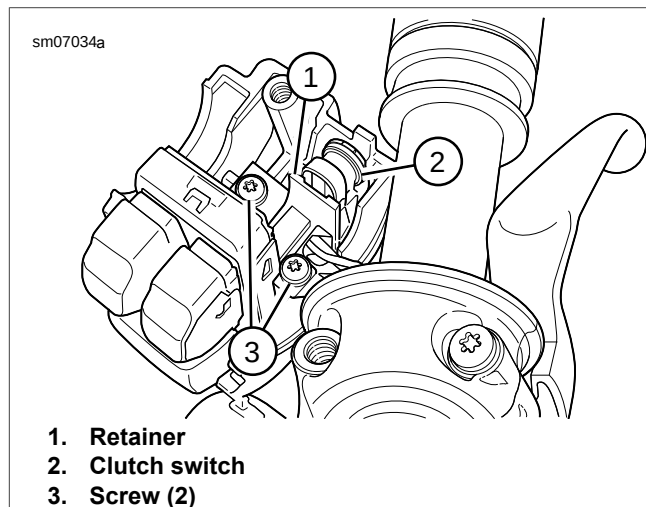

Figure 7-115. Left Handlebar Control Module and Clutch Switch Retainer
6. See Figure 7-115. Remove screws (3) and retainer (1).
7. Carefully remove clutch switch (2) and switch assembly from lower switch housing.
1. See Figure 7-115. Place switch assembly into position on lower switch housing and carefully install clutch switch (2).
2. See Figure 7-115. From inside the switch housing, remove screws (3) and retainer (1). Remove clutch switch (2) from housing.
8. See Figure 7-115. Install clutch switch (2) into housing. Install retainer (1) and screws (3). Tighten screws to 8-10 **in-lbs** (0.9-1.1 Nm).